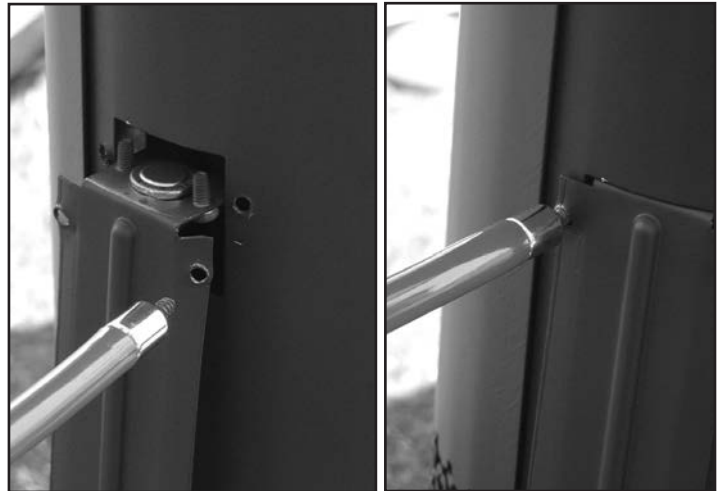

Figure 48: Spill switch installation.
3. Remove the four mounting screws holding the spill switch bracket and remove the bracket (see Figure 48).